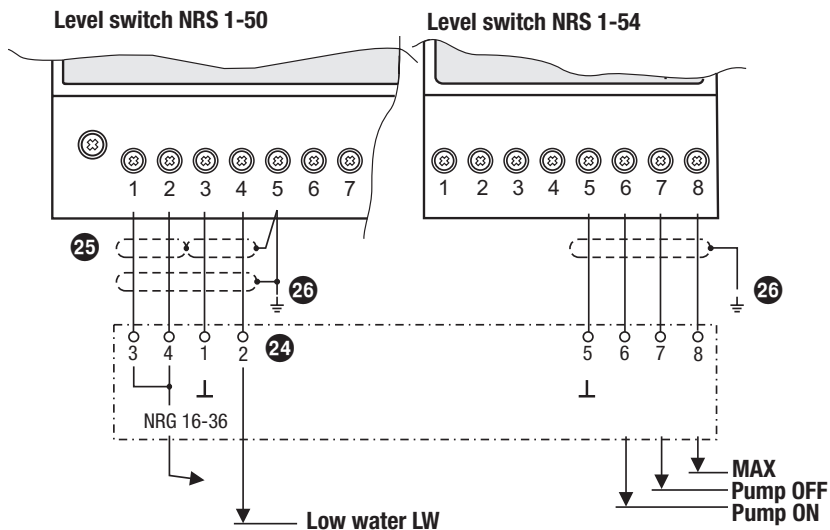

Fig. 8
Wire terminal strip in accordance with the wiring diagram. **Fig. 8.** Wire the screens to terminal 5 and the central earthing point **(CEP) in the control cabinet.**
3. Connect terminals according to the wiring diagram **Fig. 8** and **table "Functions" on page 10.**